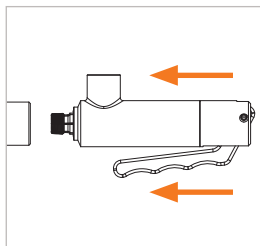

Figure 5
- ▶ With the hand lever (Pos. 2) pressed, insert the connector straight into the test piece until the front seal (Pos. 7) touches the test piece (*Figure 5*). Doing so will prevent any damage to the front seal caused by any sharp edges on the test piece and ensure a correct connection.